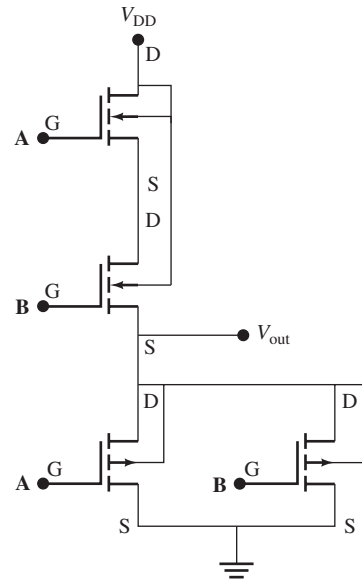

FIGURE P8.65 A CMOS circuit that functions as a gate.
- 8.65 (A) * Sketch the truth table of a two-input OR gate for the circuit shown in Figure P8.65. That is, determine the output voltage, V_{out} , in terms of inputs A and B when they are high (1) or low (0), for example, when both are 0, when both are 1, and when one is 0 and the other is 1. What is this operation?